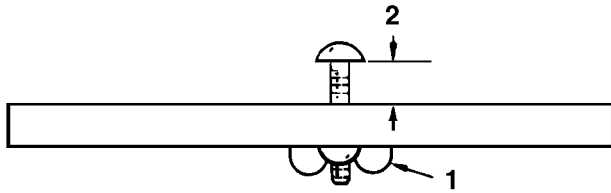
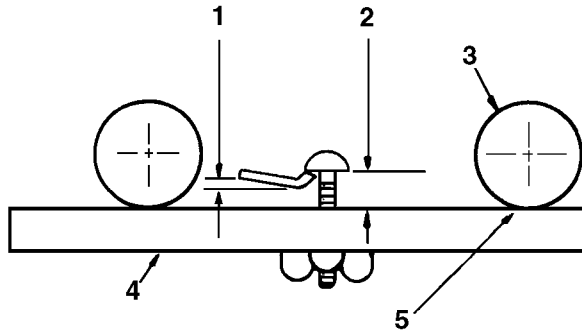

Figure 5
Figure 6
- Loosen the gauge bar jam nut and adjust the screw to set the dimension between the underside of the screw head and gauge bar for desired height-of-cut. (Fig. 5). Tighten the jam nut to secure the adjustment. Hook the screw head over the cutting edge of the bedknife and position the bar against the bottom of the front roller (Fig. 6).
knife (Fig. 6). Tighten the front roller nuts.